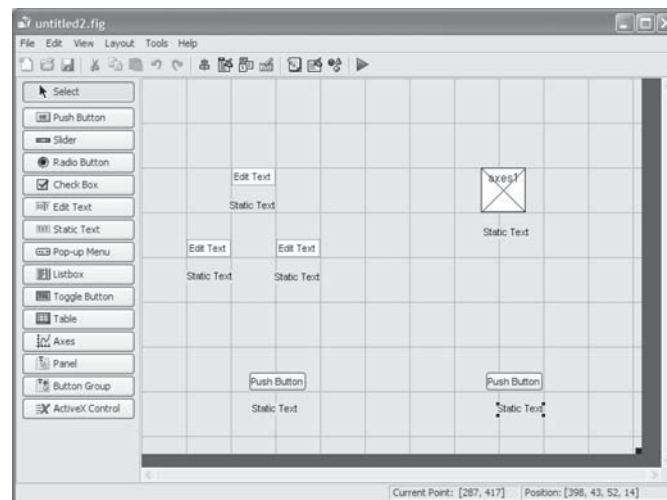

FIGURE 8.4: GUI with required objects.
- Five `Static Texts` for labels. The GUI is shown in Figure 8.4.